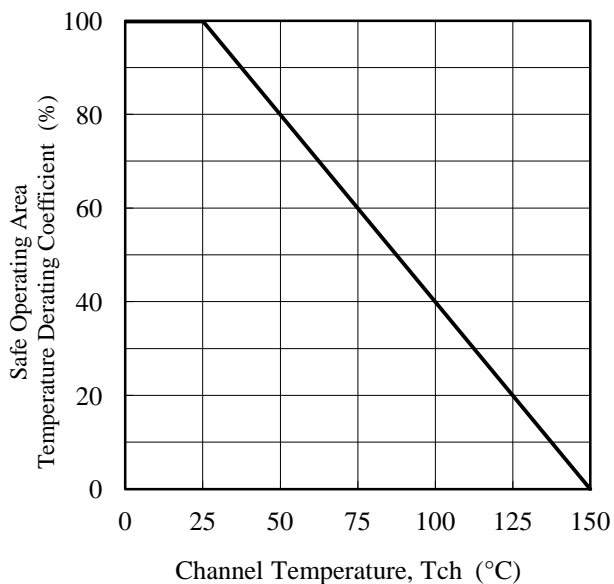

Figure 3-1 SOA Temperature Derating Coefficient Curve
⁽¹⁾ Refer to Figure 3-1 SOA Temperature Derating Coefficient Curve
- When the IC is used, the safe operating area curve should be multiplied by the temperature derating coefficient derived from Figure 3-1.